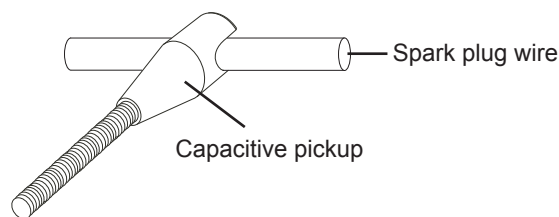

Fig. 3 - Capacitive pickup on spark plug wire for single cylinder RPM and spark plug wire peak voltage measurement.
- 5- Place the capacitive pickup over one of the spark plug wires (See Fig 3).
- 3- Place the capacitive pickup over one of the spark plug wires (as shown in Fig. 3).